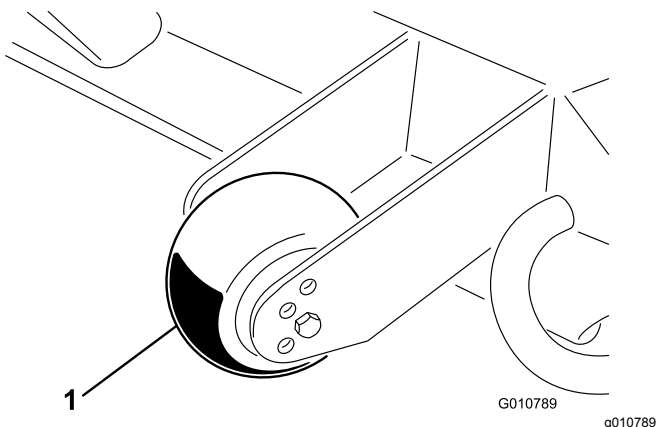

Figure 12
1. Remove the capscrew and nut securing the gage wheel to the cutting unit brackets (Figure 12).